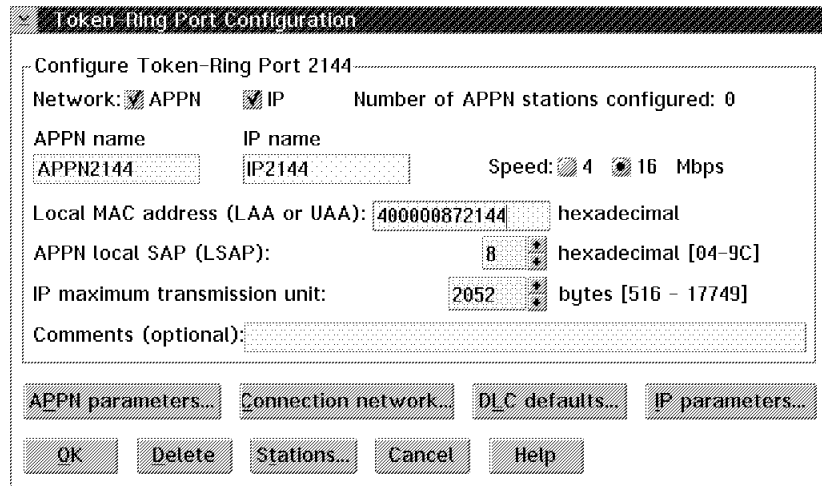

Figure 26-37. Token-Ring Port Configuration for Multiaccess Enclosure port 1 Connection
- Select **Speed 16 Mbps**, and enter the local MAC address 400000872144. as shown in Figure 26-37 and the local MAC address.